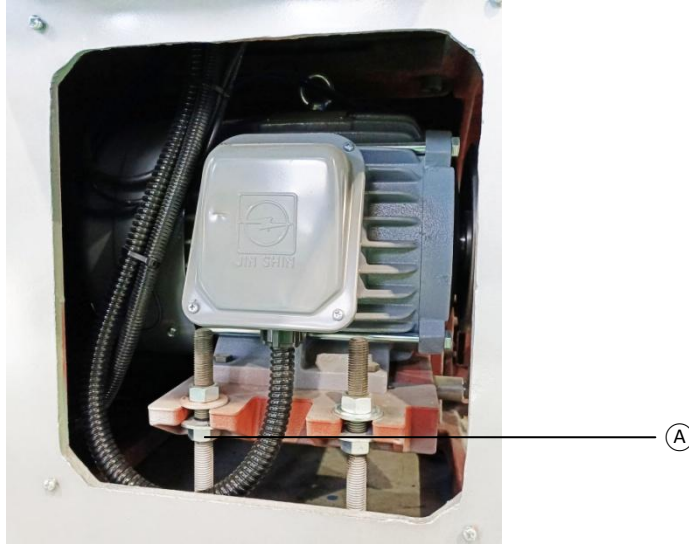

Fig.7-5
2. Loosen adjusting lock nut ① Fig. 7-5 and adjust belt to proper tension.